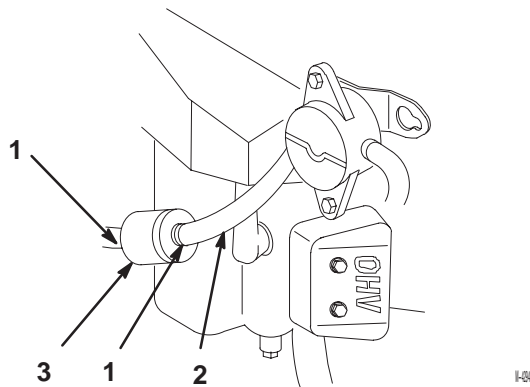

Figure 43
4. Squeeze the ends of the hose clamps together and slide them away from the filter (Fig. 43).